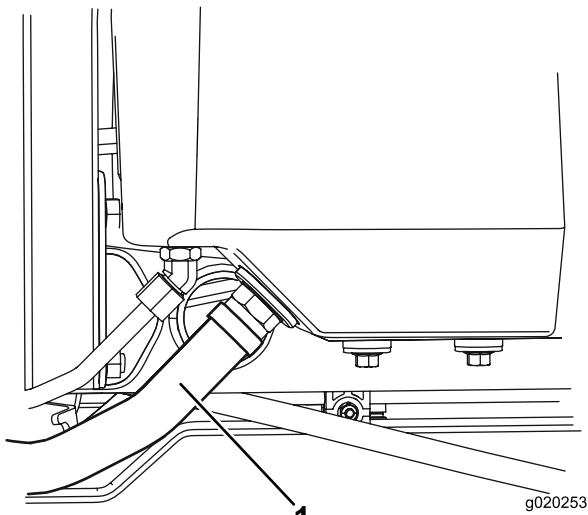

Figure 63
2. Disconnect the large hydraulic hose (Figure 63) from the reservoir and let the hydraulic fluid flow into a drain pan. Install the hydraulic hose when hydraulic fluid stops draining.